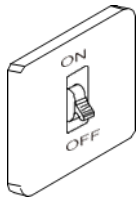

Fig. 1-1A
1. Turn of Power. Take out the luminaire and loosen the screws on the cover with the aid of a screwdriver. Disconnect the quick connect terminal and remove the front cover (Fig 1-1A-B).